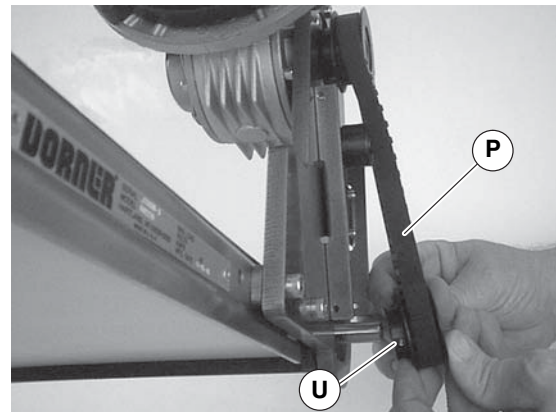

Figure 19
3. Remove timing belt (Figure 19, item P).
If timing belt does not slide over pulley flange, loosen driven pulley set screws (Figure 19, item U) and remove pulley with belt (P). For re-installation, see steps 7 and 8 on page 11.